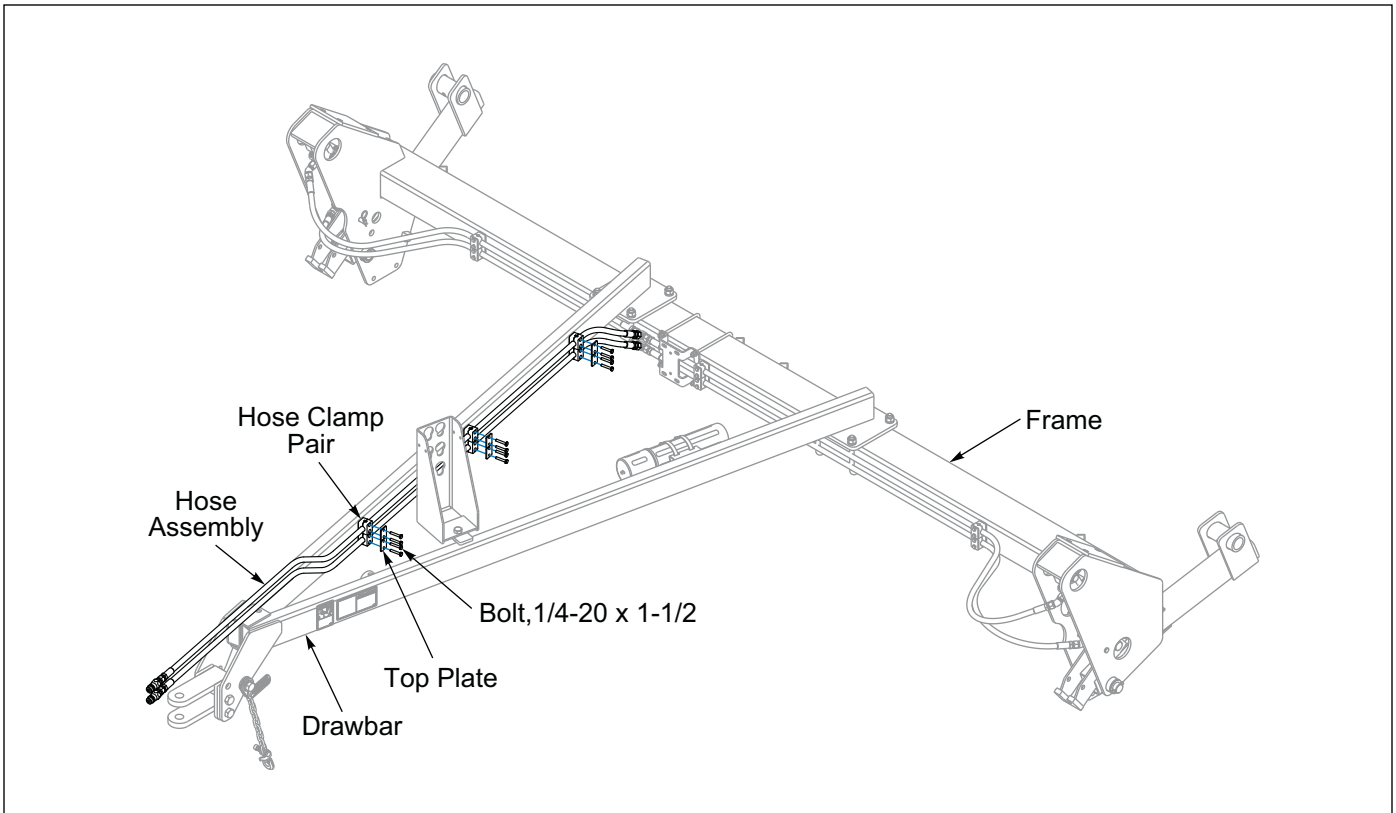

Figure 2-12: 8FT and 10FT Drawbar Hydraulics
2. Route the Drawbar Hydraulic Hoses along Drawbar toward the Tractor. Secure Hoses to Drawbar with Hose Clamp Pairs, Top Plate and 1/4-20 x 1-1/2 Bolt. See Figure 2-12.